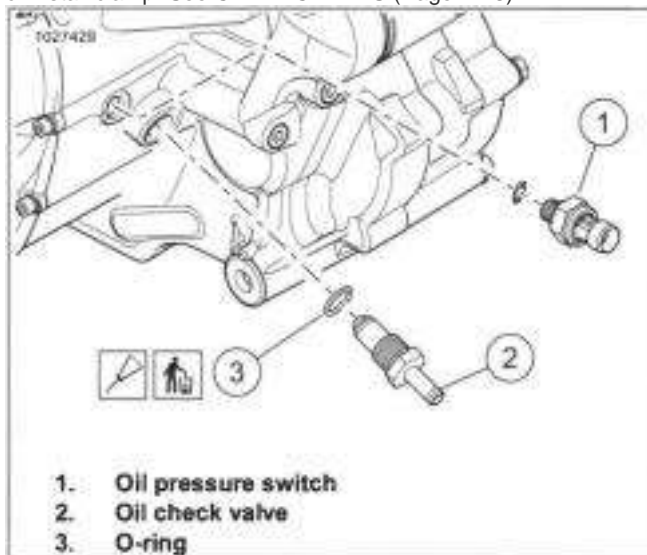

Figure 4-12. Oil Check Valve
1. See Figure 4-12. Disconnect hose from oil check valve (2). See CRIMP CLAMPS (Page 4-18).
3. Discard O-ring (3).
1. See Figure 4-12. Lubricate new O-ring (3) with fresh oil.
2. Install oil check valve (2) with O-ring. Tighten.